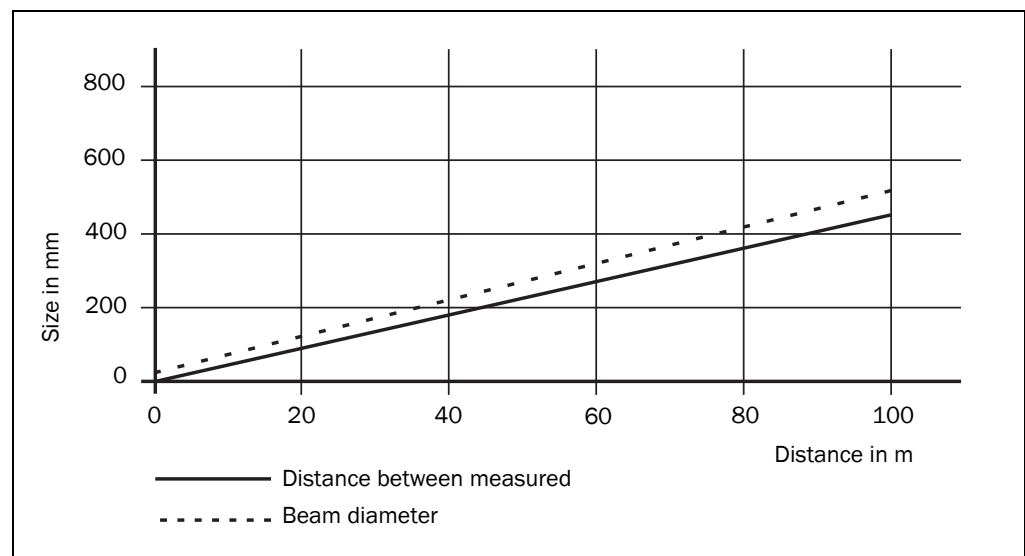

Fig. 8: Beam diameter and distance between measured points at 0 to 100 m
With increasing distance from the NAV340 the spacing between the individual measured points also increases. The diagram in fig. 8 shows the beam diameter and the distance between measured points as a function of the distance from the NAV340.
- For beam diameter and distance between measured points as a function of the distance from the NAV340 see the diagram in fig. 8.